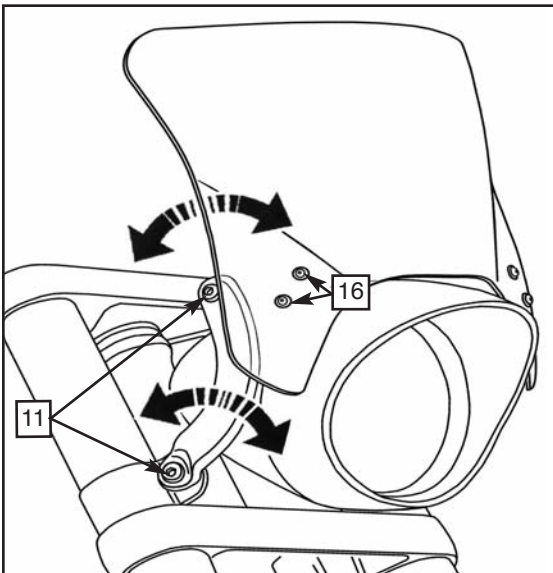

Figure 7
15. Adjust the Windshield to the desired position and securely tighten the 4 Screws (11). **(6mm Hex Wrench) Figure 7**
16. Securely tighten the 4 Screws (16) and Nuts (17) in the Windshield Brackets **(4mm Hex Wrench and 10mm Socket) Figure 7**